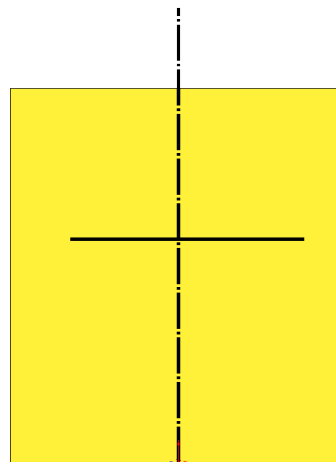

Fig. 26
Step 8. Draw a horizontal line across the body. Do not draw the line at the midpoint of the centerline, Fig. 26.